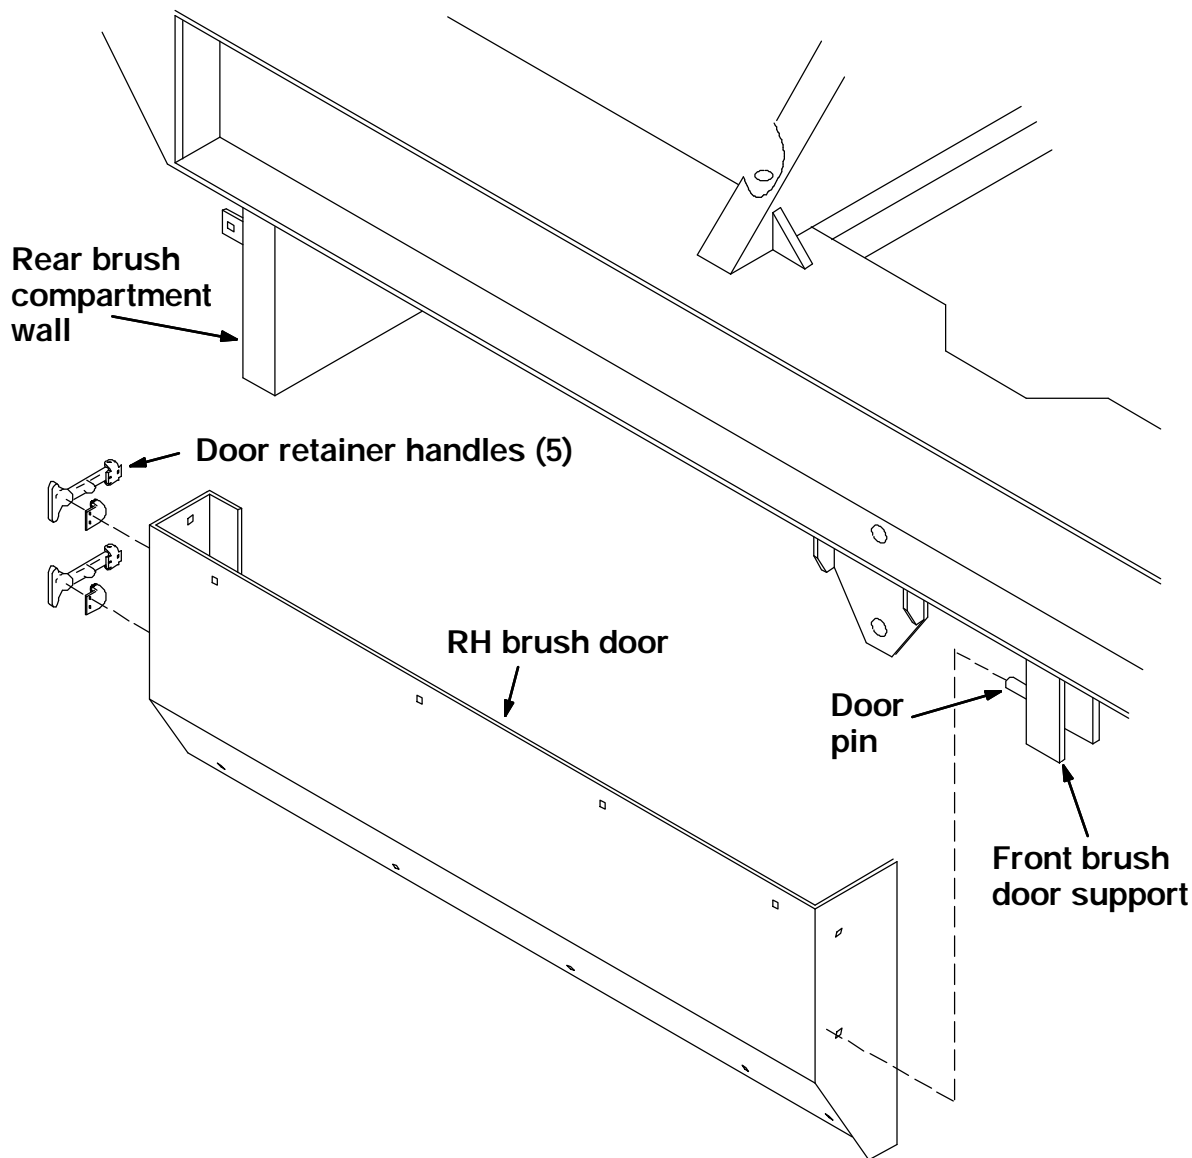
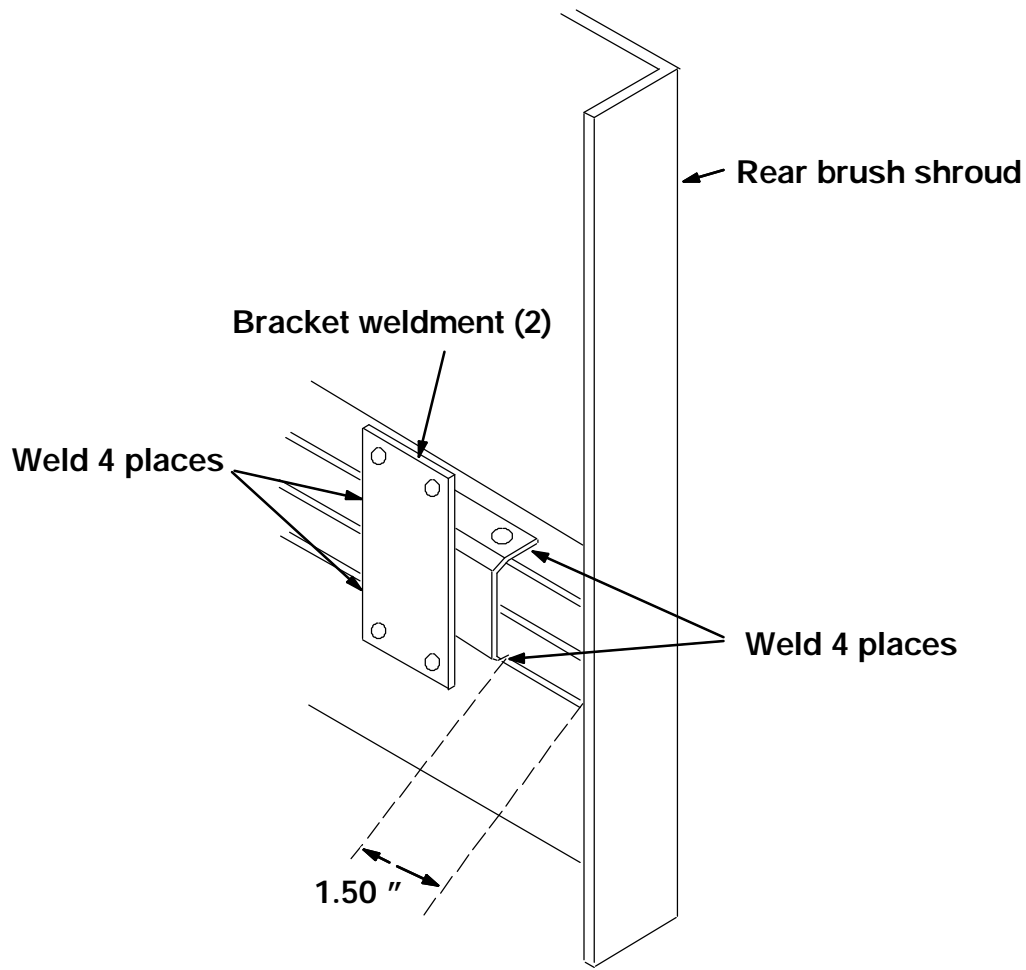

FIG. 1 - RH Brush Door Assembly (new door)
FIG. 4 - Rear Rework Of Old Style Brush Door
(Refer to FIG. 1, 2, 3, and 4)
3. Using means available, adjust the rear wall of the main brush compartment so that it is as close to vertical as possible. Also adjust the front brush door supports so they are vertical. (Refer to FIG. 1 and 2)
4. Attach the 2 door retainer handles (5) to the bracket weldment (2) using four pop rivets (4).
5. Position the bracket weldment (2), with the retainer handles (5) attached, on the machines main brush rear cross channel with the edge of the weldment (2) 1-1/2 inches from the end of the channel. (Refer to FIG. 4)
6. Weld the bracket (2) in using 3 inches of weld on each side, top and bottom. (Refer to FIG. 4)
11. Position the brush door in place by inserting the two pins on the front of the door in the two holes in the front door support. (Refer to FIG. 1 and 2)
(Refer to FIG. 1 and 2)
5. Position the bracket weldment (2), with the retainer handles (5) attached, on the machine's main brush rear cross channel with the edge of the weldment (2) 1-1/2 inches from the end of the channel. (Refer to FIG. 4)